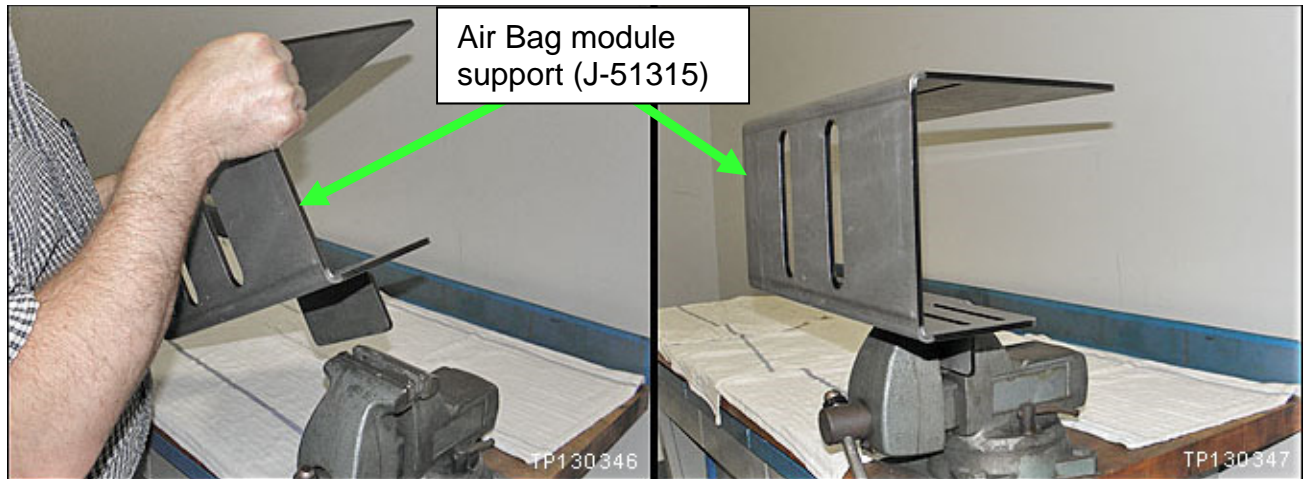

Figure 24
22. Securely mount the Air Bag module support in a vise (Figure 24).